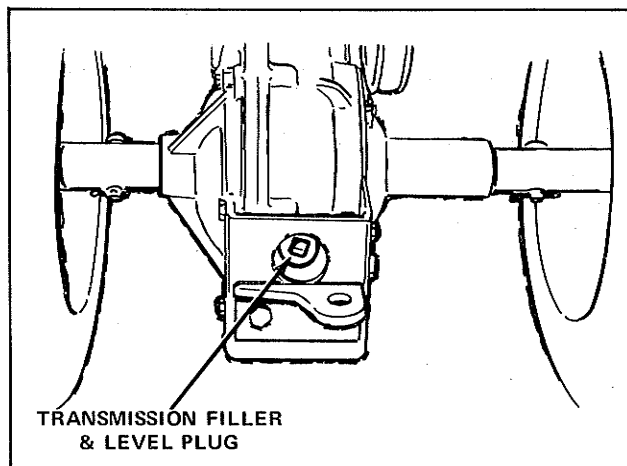

Figure 4
3. Transmission Oil: Check the transmission to insure it is filled with oil to the proper level. See page 11 of this manual for type and weight of oil to use. (Figure 4)